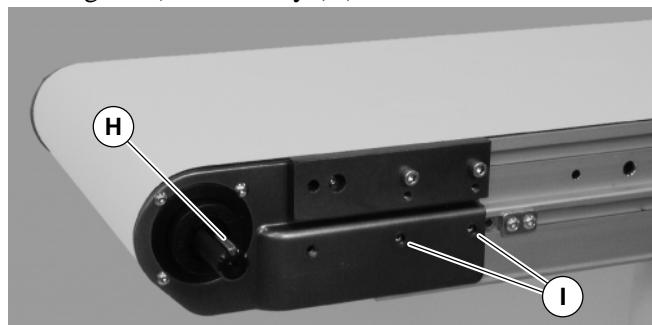

Figure 4
2. Locate drive output shaft. Remove screws (I of Figure 4). Install key (H).